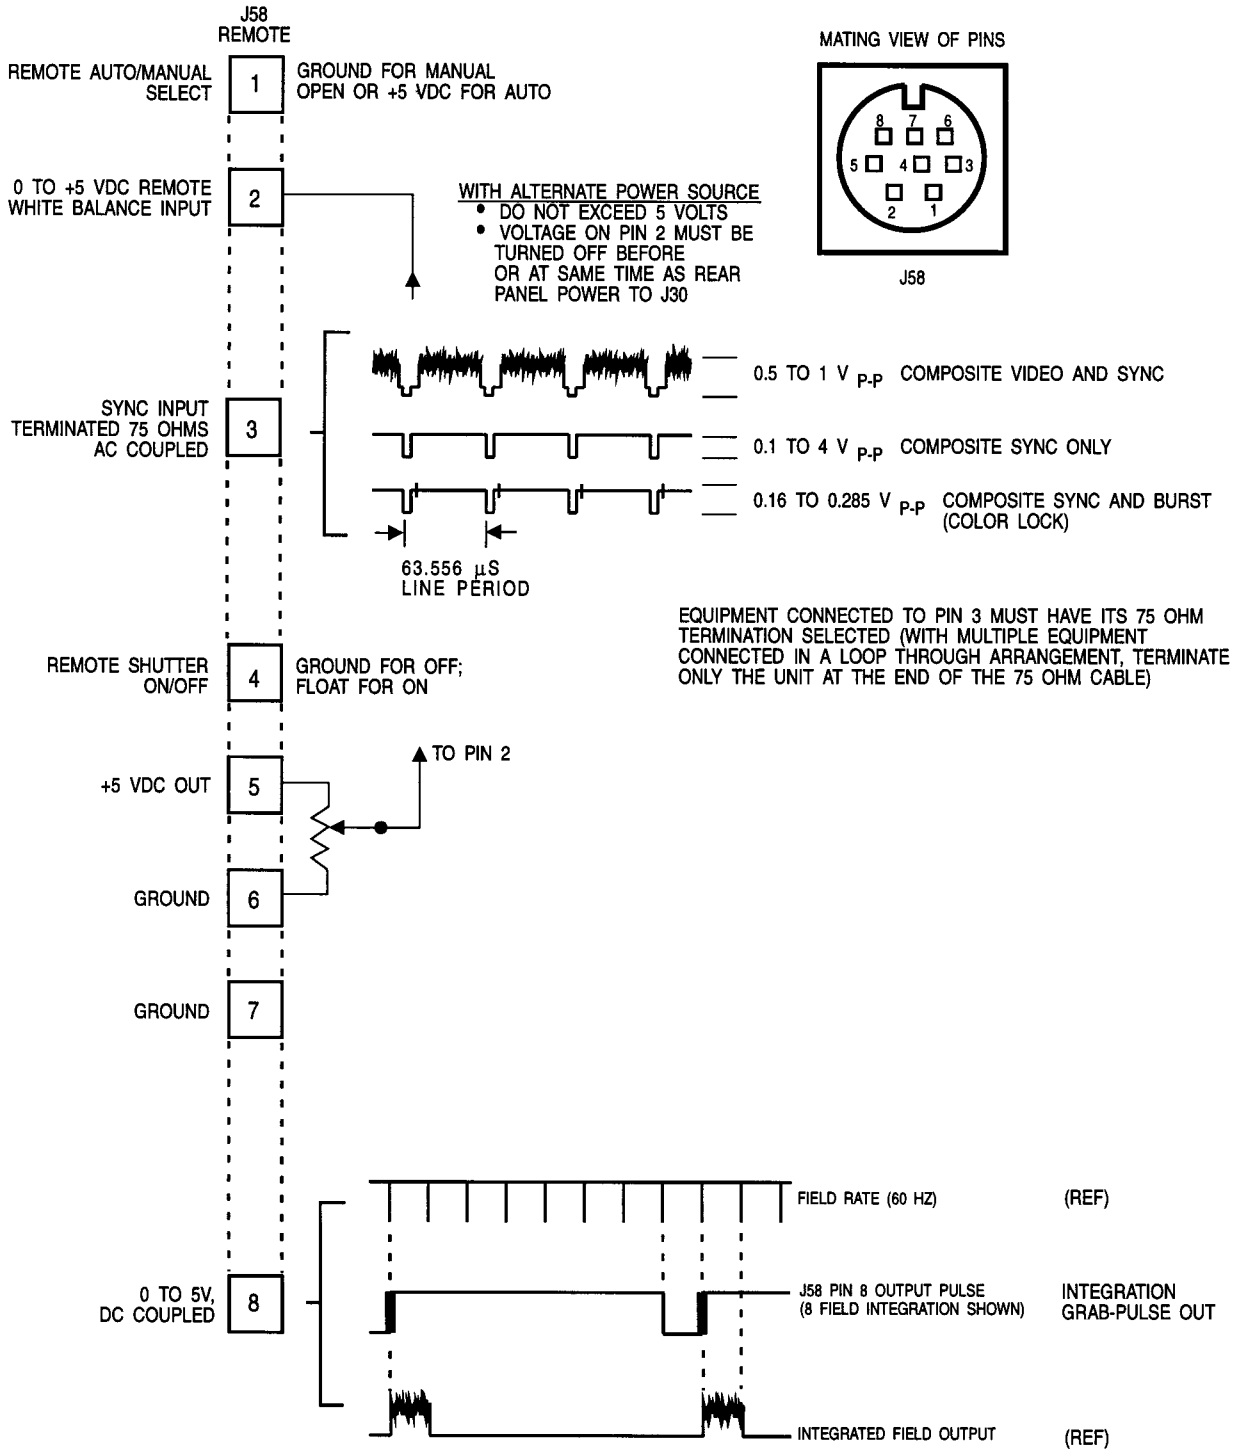

Figure 8. Remote Input/Output (J58)
Connector J58 has eight pins to provide multiple input and output functions. Figure 8 illustrates these pin functions. Table 4 provides additional details. Note that pin 2 is shown as receiving voltage from a potentiometer connected to 5 V dc at pin 5 of J58. Using an external source of power for a potentiometer connected to pin 2 could lead to damage: (1) The voltage should never exceed 5 volts, and (2) It should be removed either before or simultaneous with power being turned off at J30, the Camera power input. The Camera-supplied 5 volt source meets both these conditions.
If it is desired to sync the Camera to a master sync source or to genlock it to another Camera, deemed the master Camera, the input should be applied to pin 3 of J58. Pin 3 of figure 8 shows typical input waveforms and gives minimum and maximum peak-to-peak levels.
The grab pulse for this board is provided as an output at pin 8 of J58. This pulse provides a leading (rising 0 to 5 volt) edge coincident with the beginning of video for the integrated output field (fig. 8). This pulse is provided for each integrated output field.